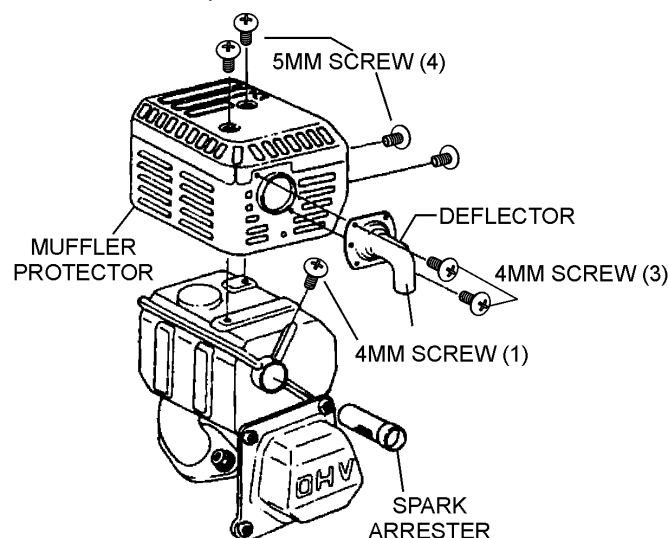

Figure 46. Spark Arrester Removal
1. Remove the 4 mm screw (3) from the exhaust deflector, then remove the deflector. See Figure 46
2. Remove the 5 mm screw (4) from the muffler protector, then remove the muffler protector.